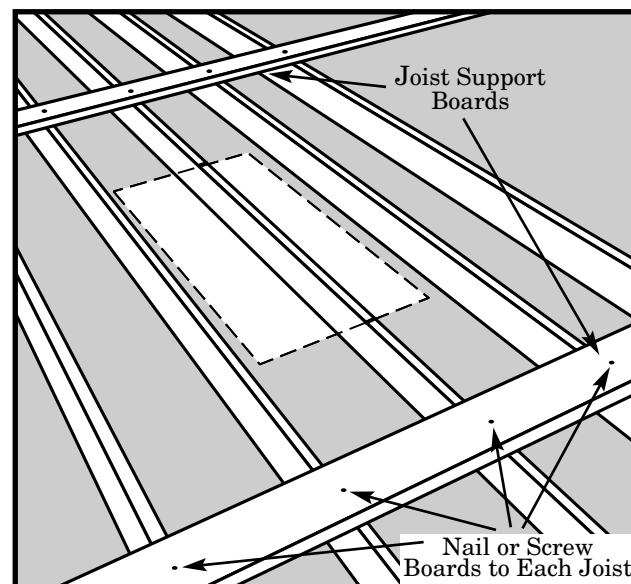

Figure 12
STEP 2. Cut 2 joist-sized boards long enough to span 2 joists on each side of your chosen location (Figure 12). These boards will support the joists that will be cut and help keep the ceiling from sagging or completely collapsing while you are working in the overhead space.
STEP 3. Place these boards approximately 24 inches from the edge of your chosen location and nail as shown in Figure 12.